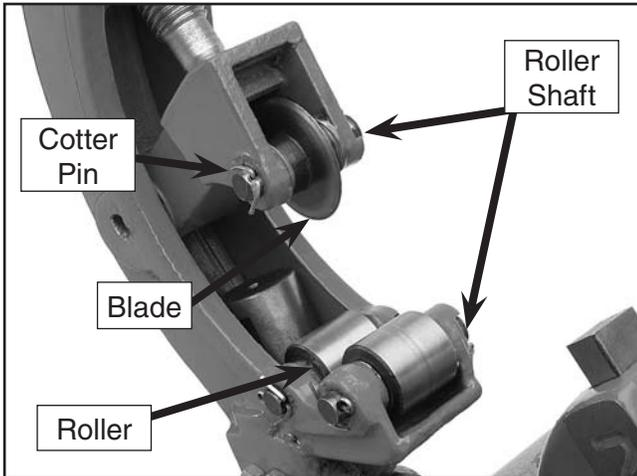

Figure 21. Cutting tool components.
2. Remove the cotter pins from the end of the roller shafts and pull the roller shaft out of the housing (see **Figure 21** for parts identification).